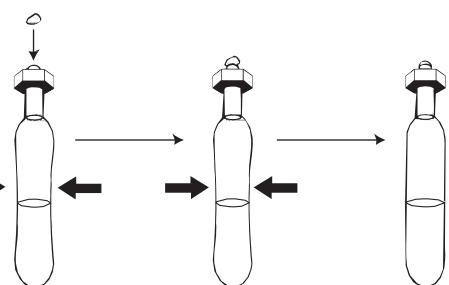

Figure 6.
5. **Closed-System Divers.** After the density has been adjusted, try sealing the mouth of the diver with a drop of hot glue. Now, when the bottle is squeezed, instead of water being forced up into the diver's mouth, the sides of the diver are forced noticeably inward (see Figure 6). This closed system allows the use of colored water inside the diver and results in divers